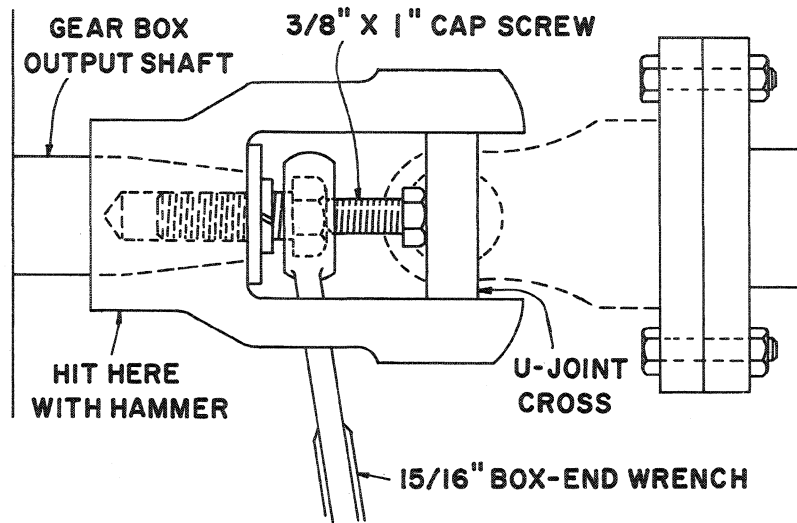

FIGURE 1-1
- a. Shear bolt drive - Remove the U-joint assembly from the gearbox shaft as shown in Figure 1-1.